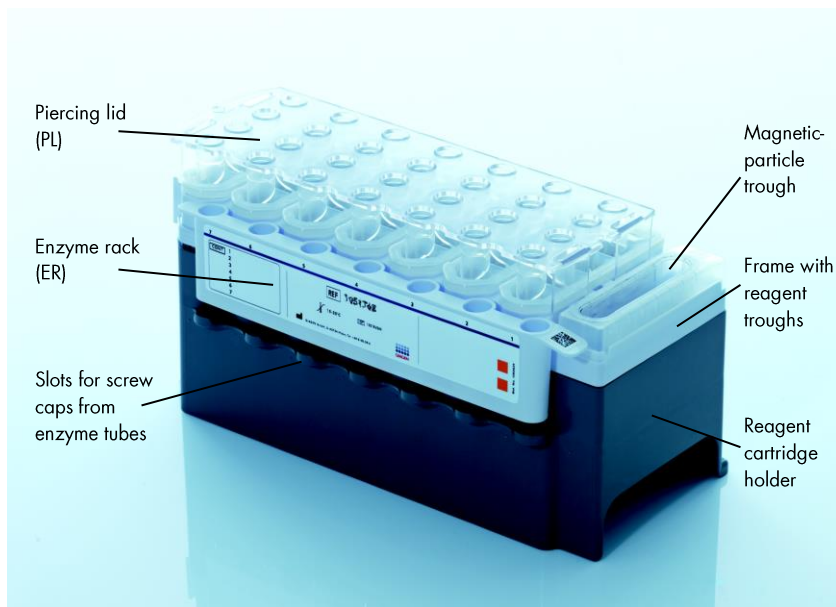

Figure 2. QIAasympphony reagent cartridge (RC). The reagent cartridge (RC) contains all reagents required for the protocol run.
Reagents for purification of DNA are contained in an innovative reagent cartridge (RC) (Figure 2, page 13). Each trough of the reagent cartridge (RC) contains a particular reagent, such as magnetic particles, lysis buffer, wash buffer, or elution buffer. Partially used reagent cartridges (RC) can be reclosed with Reuse Seal Strips (RSS) for later reuse, which avoids generation of waste due to leftover reagents at the end of the purification procedure.
Before starting the procedure, ensure that the magnetic particles are fully resuspended. Remove the magnetic-particle trough from the reagent cartridge frame, vortex it vigorously for at least 3 minutes, and replace it in the reagent cartridge frame before the first use. Place the reagent cartridge (RC) into the reagent cartridge holder. Place the enzyme rack (ER) into the reagent cartridge holder. Before using a reagent cartridge (RC) for the first time, place the piercing lid (PL) on top of the reagent cartridge (RC) (Figure 2, above).
After the magnetic-particle trough cover is removed and the enzyme rack tubes are opened (screw caps can be stored in dedicated slots, see Figure 2, page 13), the reagent cartridge (RC) is subsequently loaded into the “Reagents and Consumables” drawer.